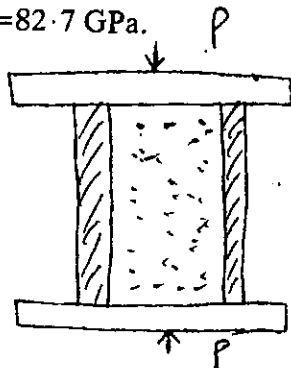

Fig. 1
1. Consider a steel tube surrounding a solid aluminium cylinder, the assembly being compressed between infinitely rigid cover plates by centrally applied load as shown in fig. 1. The aluminium cylinder is 0.0762 m in diameter and the outside diameter of the steel tube is 0.0889 m. If $P=213504$ N, find the stress in steel and also in aluminium. For steel, $E_s=207$ GPa and for aluminium $E_a=82.7$ GPa.